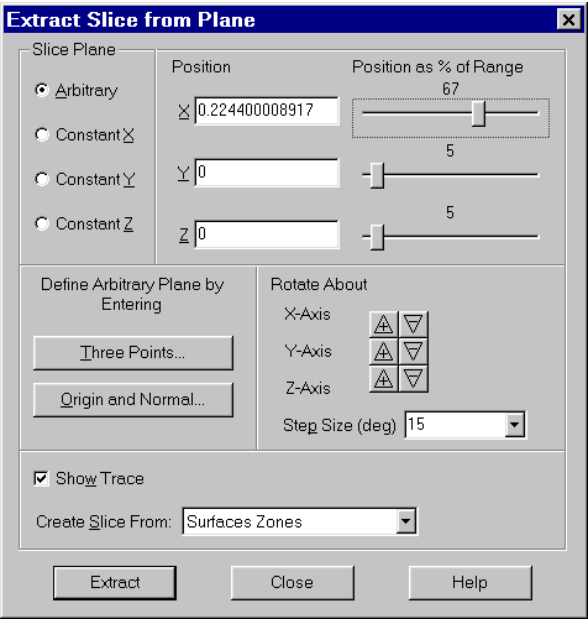

Figure 21-12. The Extract Slice from Plane dialog.
1. From the Data menu, choose Extract, then choose the Slice from Plane option. The Extract Slice from Plane dialog appears as in Figure 21-12.